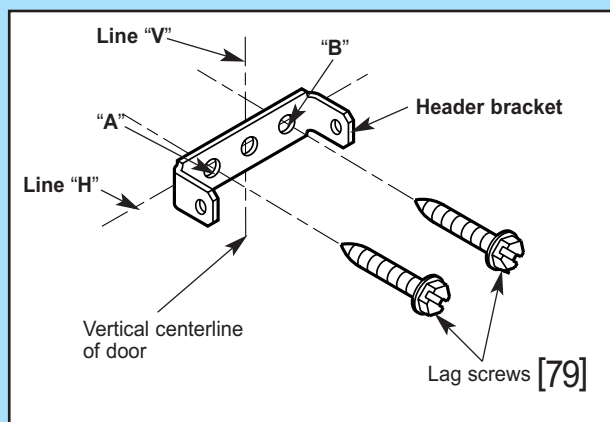

Fig. 2-11
4. Install header bracket (Fig. 2-11).
- Fasten header bracket to header with two (2) 1/4" x 2" lag screws [79].